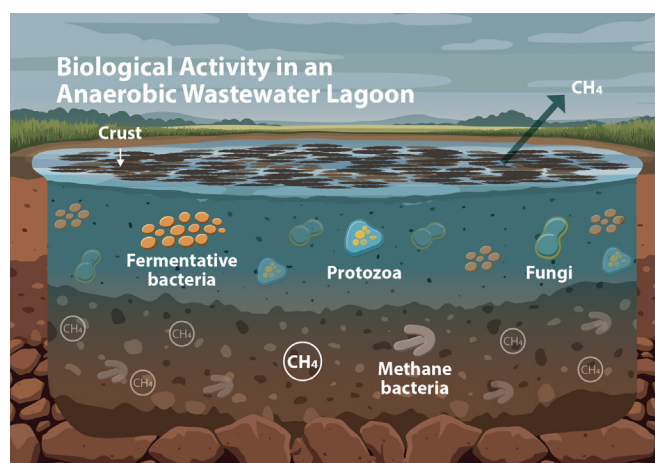

Figure 11. Biological Activity in an Anaerobic Wastewater Lagoon
- In **anaerobic lagoons**, anaerobic bacteria decompose organic materials in the absence of oxygen (Figure 11).